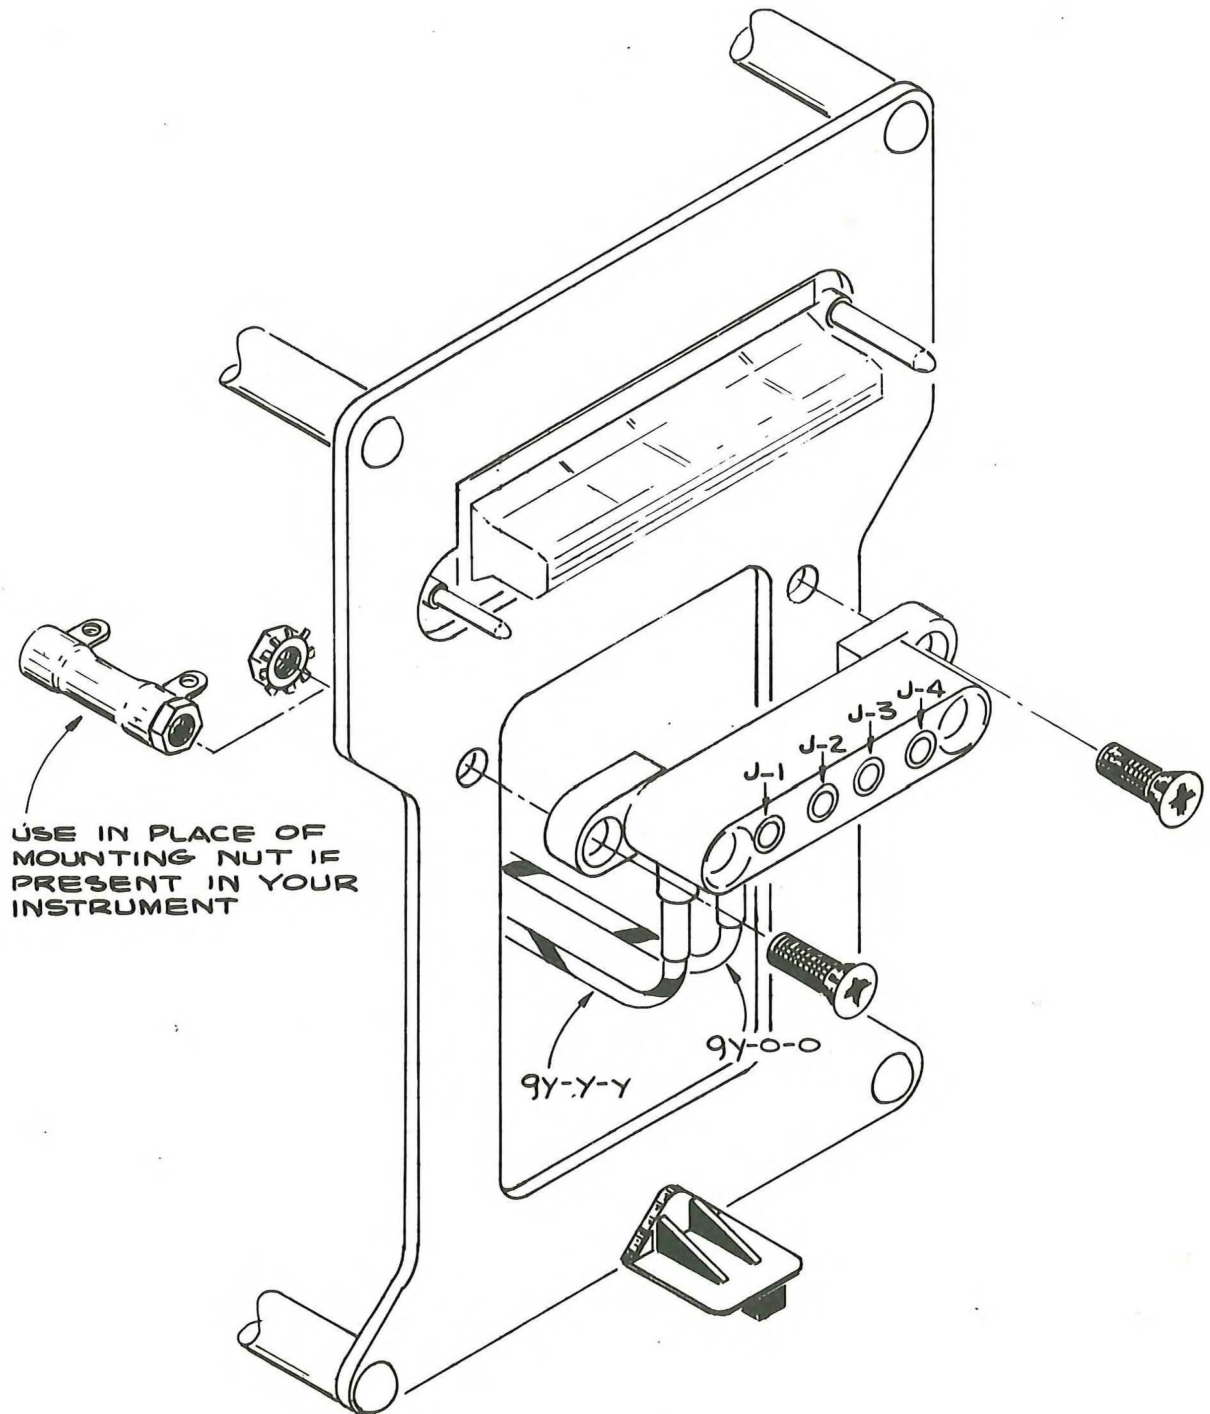

Fig. 1
A. TO INSTALL CONNECTOR ASSEMBLY (ALL PLUG-INS): Refer to Fig. 1.